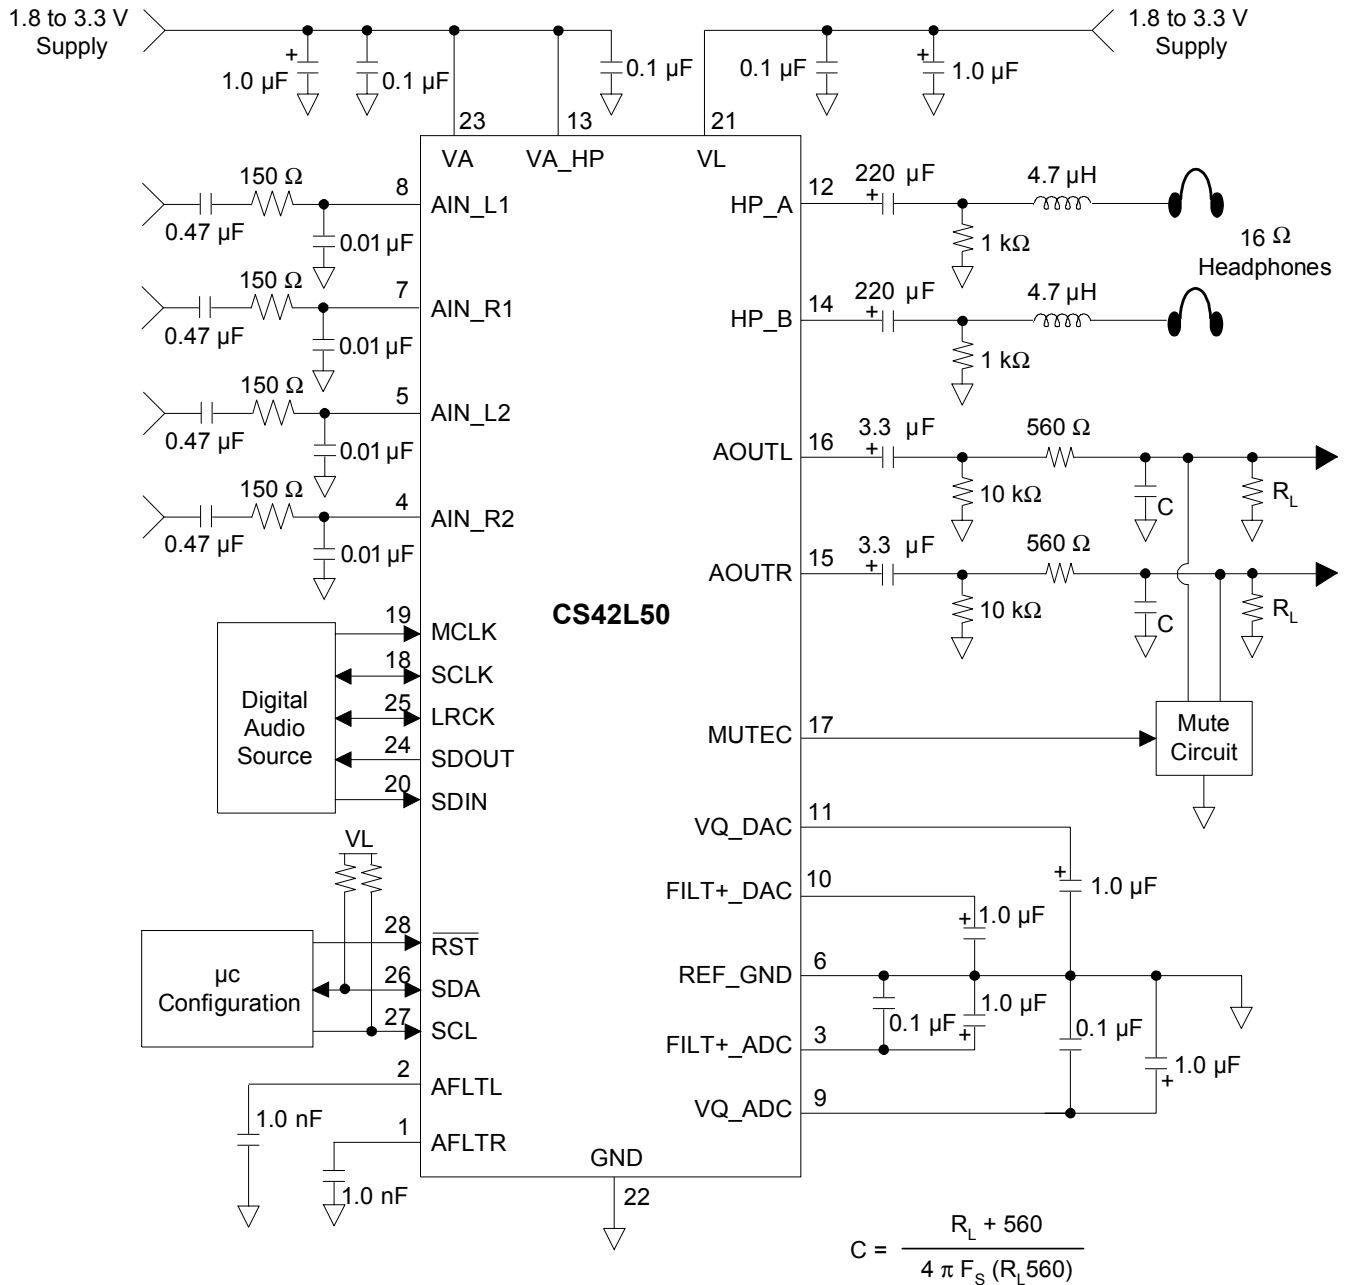

Figure 4. CS42L50 Typical Connection Diagram
14. Valid with the recommended capacitor values on FILT+_ADC, FILT+_DAC, VQ_DAC, and VQ_ADC as shown in Figure 4. Increasing the capacitance will also increase the PSRR. Note that care should be taken when selecting capacitor type, as any leakage current in excess of 1.0 μ A will cause degradation in analog performance. A small ceramic capacitor in parallel with a larger electrolytic is recommended.
Notes: 15. V_A and V_{A_HP} should be tied to the same supply as shown in Figure 4.